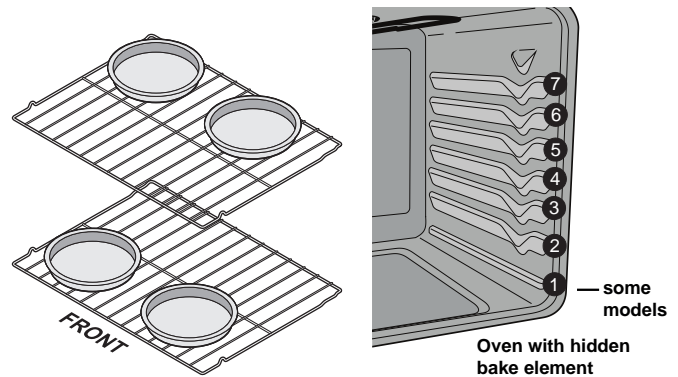

Figure 13: Pan spacing and oven rack positions
- When using 2 oven racks place racks in positions 3 and 5 for and position cookware as shown in Figure 13.